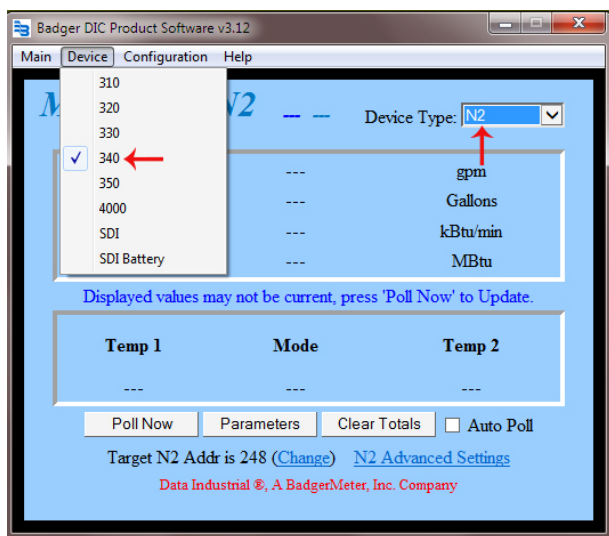

Figure 11: Device 340 N2
5. Select **340** from the **Device** option in the menu bar and **N2** from the **Device Type** drop-down menu as shown in *Figure 11*.